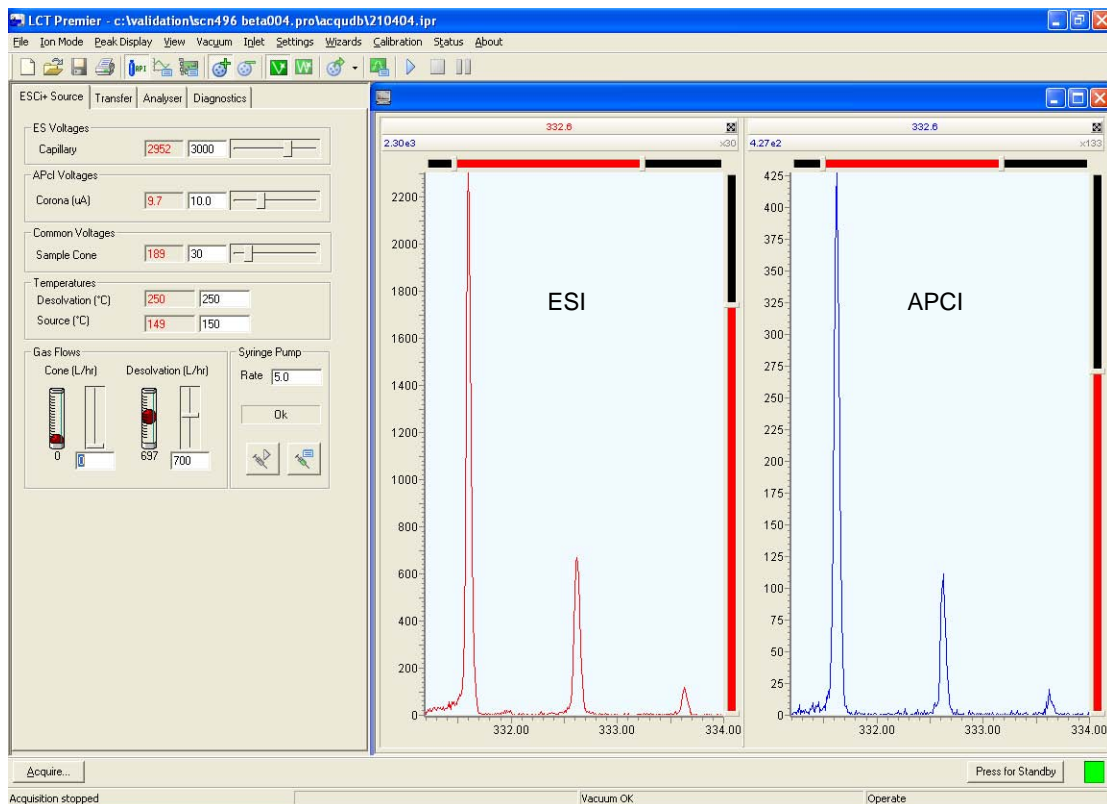

Figure 5-17 Dual Mode ESCi
14. Observe the two peaks in the Tune window (Figure 5-17).